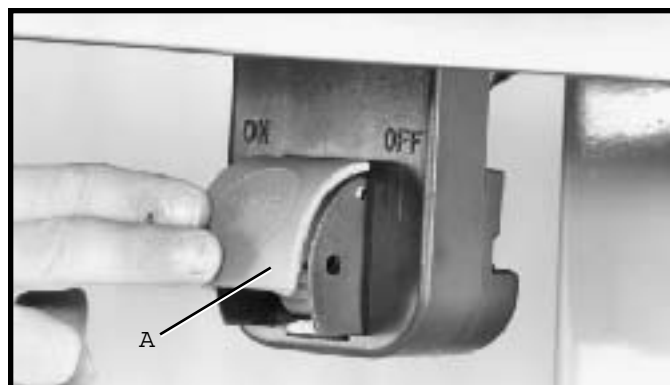

Fig. 77
2. To turn the saw OFF, simply push down on switch shield (A) Fig. 77.